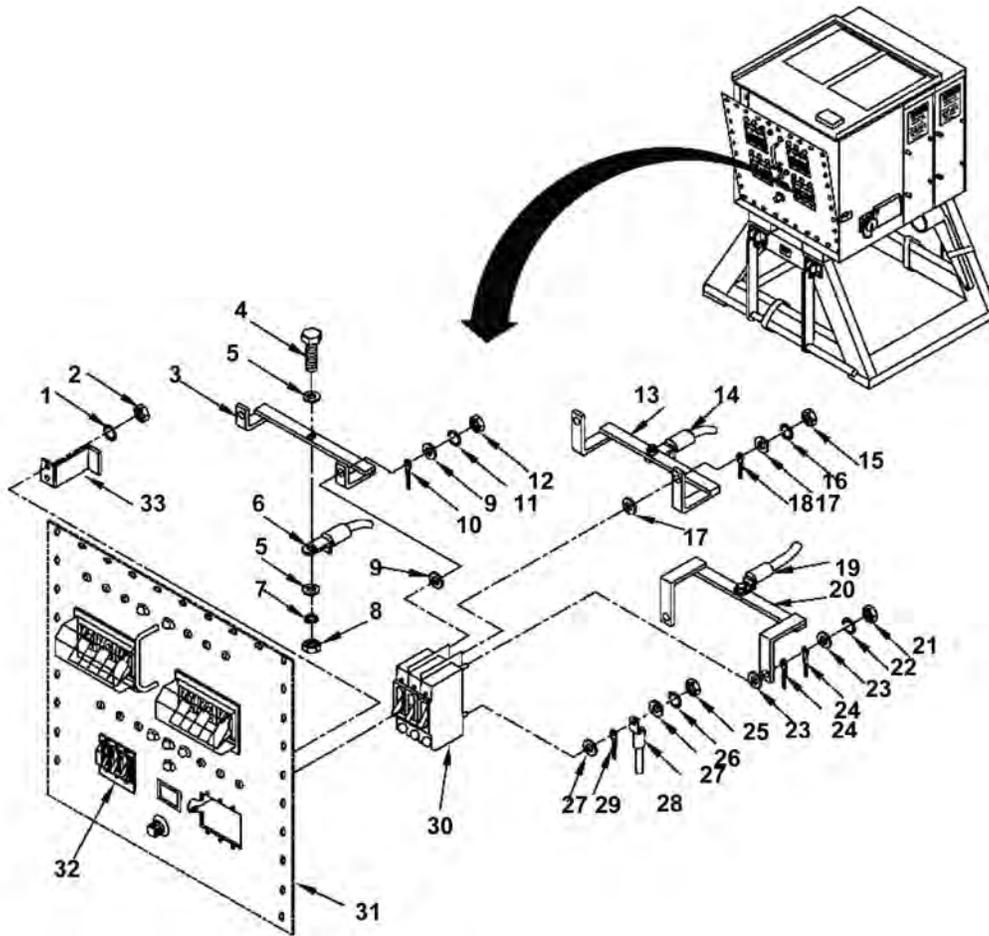

Figure 1. Bus Bars A1, B1, and C1 (PP-8440A Only).
7. Attach one bolt (Figure 1, Item 4) and one flat washer (Figure 1, Item 5) to buss bar A2 (Figure 1, Item 3) by inserting through hole on top of buss bar. Attach one wire (Figure 1, Item 6), one flat washer (Figure 1, Item 5), one locking star washer (Figure 1, Item 7) and one nut (Figure 1, Item 8) to bolt.
8. Connect buss bar A2 (Figure 1, Item 3) to circuit breaker/CB4 (Figure 1, Item 30) and circuit breaker/CB3 (Figure 1, Item 32) by installing four flat washers (Figure 1, Item 9), two indicator wires (Figure 1, Item 10), two locking star washers (Figure 1, Item 11) and two nuts (Figure 1, Item 12). Ensure wire (Figure 1, Item 6) on buss bar (Figure 1, Item 3) is securely attached. Ensure all connections correspond to correct power phase. Remove all tags.
9. To connect buss bars B2 (Figure 1, Item 13) or C2 (Figure 1, Item 20) to circuit breaker/CB4 (Figure 1, Item 30) and circuit breaker/CB3 (Figure 1, Item 32), repeat procedure (steps b and c) used for buss bar A2 (Figure 1, Item 3).
10. Perform procedures in WP 0027 to secure circuit breaker panel (Figure 1, Item 31).